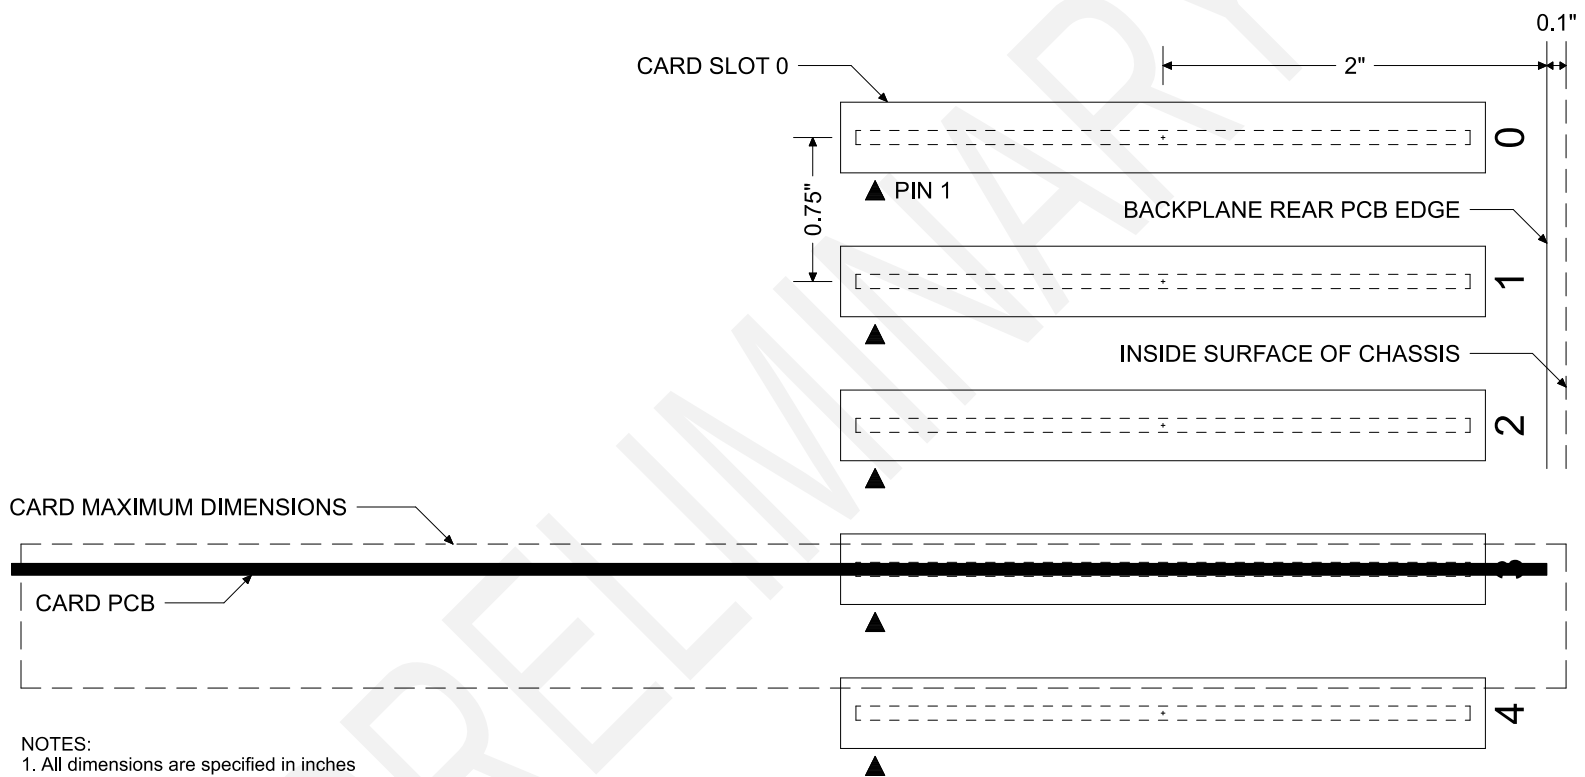

Figure 5-2: Backplane Physical Dimensions
- 1) Backplanes must conform to the measurements and orientation shown in *Figure 5-2*.